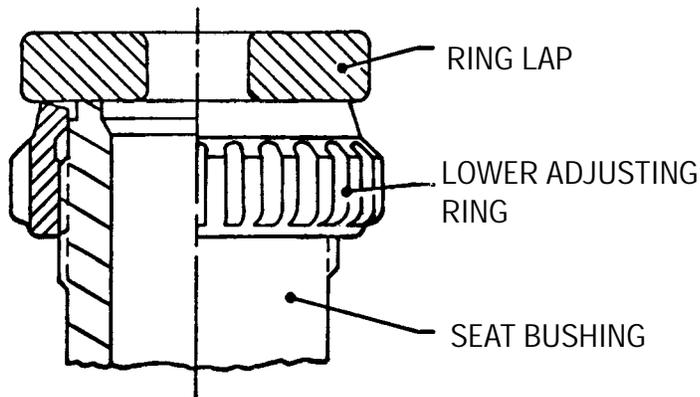

FIGURE 11
14. Loosen the lower adjusting pin until the pin is slightly clear of the notches in the lower adjusting ring. Being careful not to move the lower adjusting ring, place a ring lap on top of the bushing seat. (See Figure 11, left). Then, using the ring pin as a "pointer", or reference point, rotate the lower adjusting ring counterclockwise and count the number of notches that pass in front of the "pointer" until contact is made with the ring lap. Record this information, as it will be required to correctly reassemble the valve.